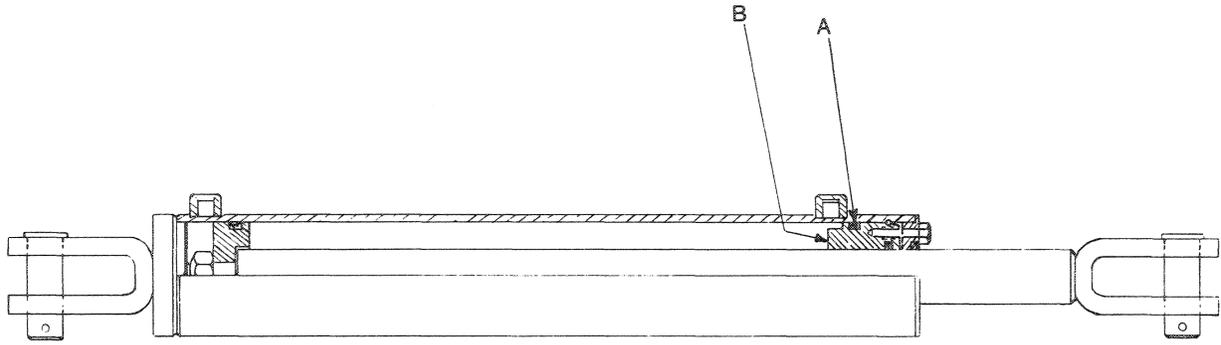

FIGURE 37
1. Lubricate all seals, O-rings, and sliding surfaces before assembly. **NOTE: Two different size seals, A, Figure 37, are included in seal kit for either style cylinder head, B.**